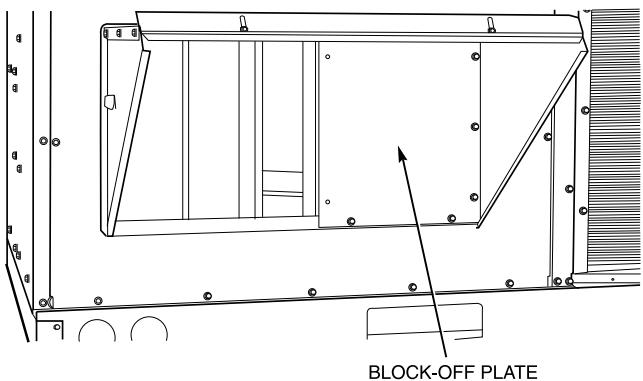

Fig. 20 — Horizontal Discharge Block-Off Plate
- c. Install horizontal discharge block-off plate over the opening on the access panel. (Block-off plate MUST be installed before installing hood assembly.) See Fig. 20.